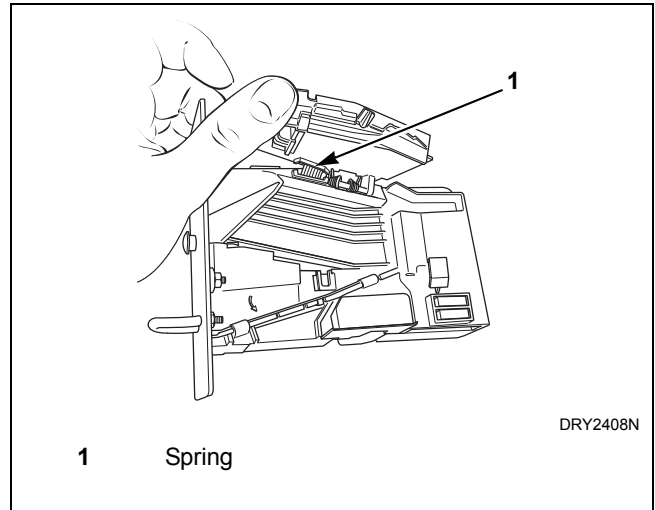

Figure 5
- a. Open cover of coin drop. Refer to *Figure 5*.